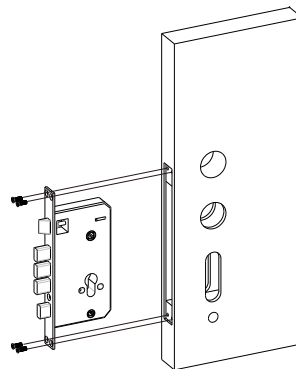

Fig. 1
1. Insert the mortise into the drilled mortise hole and tighten it with screws A (Figure 1).